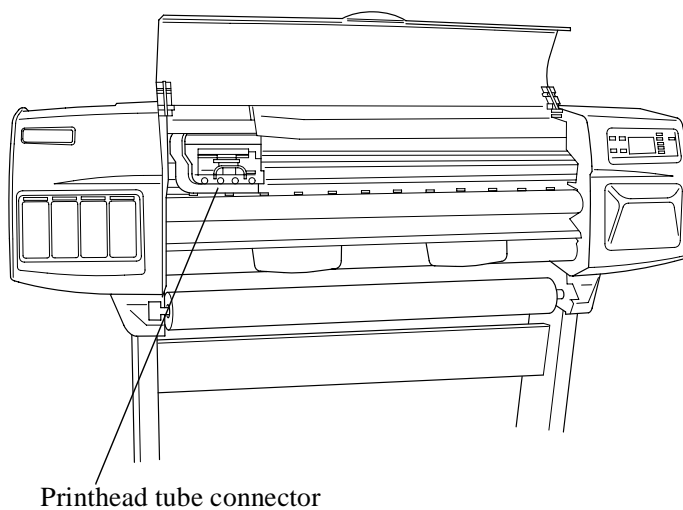

Figure 38: Cutter Assembly
Refer to Figure 38 to Figure 40.
2. Move the carriage to a position where you can access the printhead tube connector (refer to Figure 38).